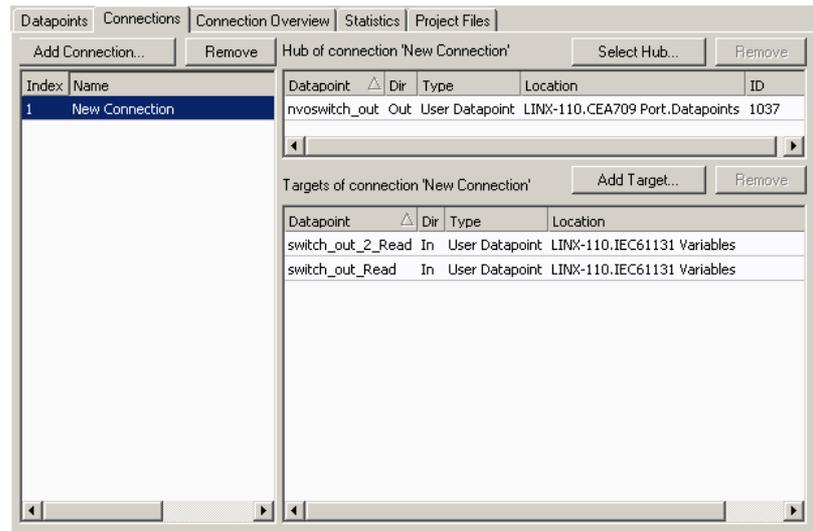

Figure 120: Connection dialog with hub and target points.
5. Now the connection dialog contains a hub and two target data point as shown in Figure 120.